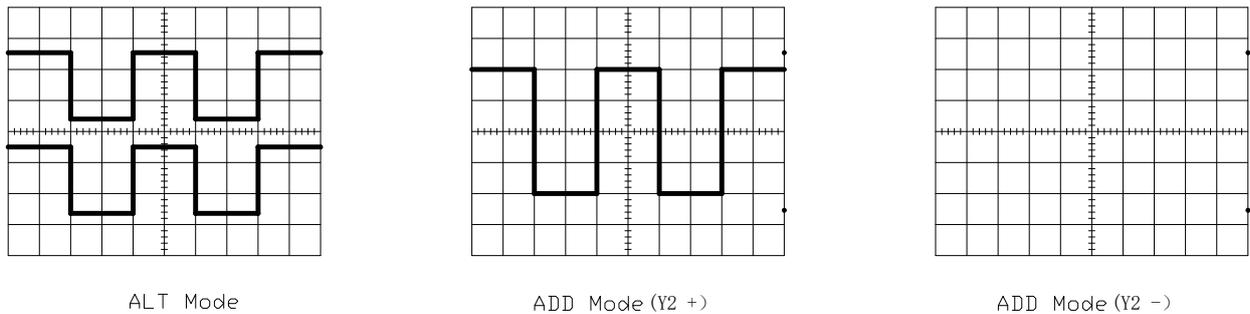

Fig.5-6
(4) Set DUAL to be ADD to get the algebra sum displayed. If you want to observe the algebra difference, please press in the knob CH2 INV. Fig. 5-6 shows the algebra sum and difference of two signals.